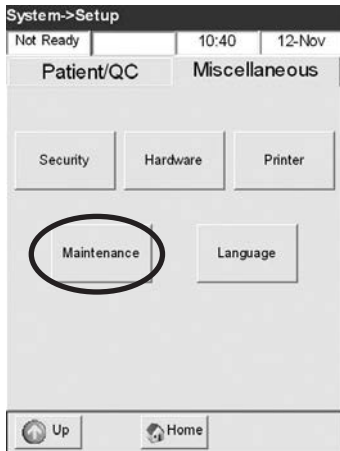

Fig. 3-47 Select Maintenance
2. In the **<System Setup>** menu, press the **<Miscellaneous>** tab and then **<Maintenance>** (Fig. 3-47).